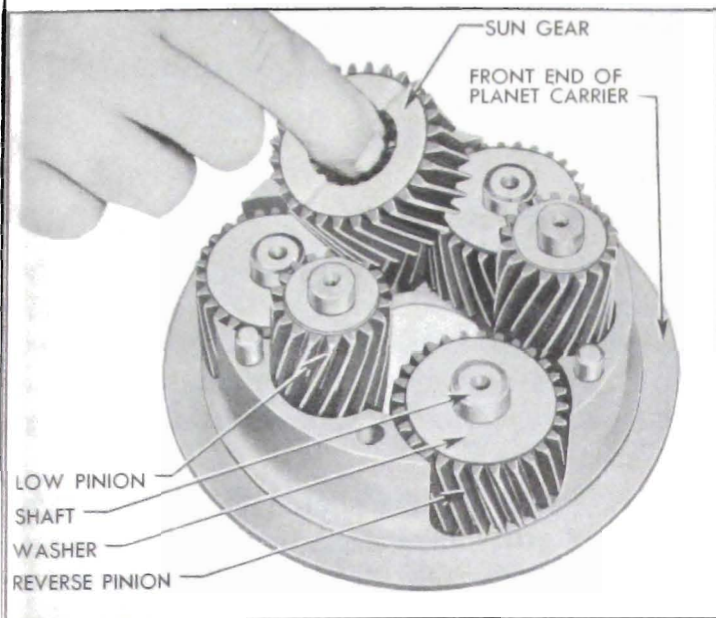

Figure 5-83—Removal of Sun Gear and Planet Pinions
3. Remove the sun gear rear thrust washer, which may be either on sun gear or stuck in rear end of carrier. Remove reverse sun gear. See figure 5-83.
5. Remove the 3 low planet pinion assemblies, each consisting of a pinion, shaft, and bearing rollers retained at each end of pinion by steel thrust washers. See figure 5-83. A retaining ring snapped into a groove in shaft will hold the lower thrust washer in place as shaft is tapped out of carrier. The shaft is prevented from turning in carrier by a  $\frac{3}{32}$ " steel ball imbedded in end of shaft. Do not lose the steel ball.
2. Make sure that steel ball is embedded in each shaft to prevent turning in carrier, then install planet pinion assemblies in front end of planet carrier, using care to engage the steel balls in the notches in carrier. See figure 5-83.